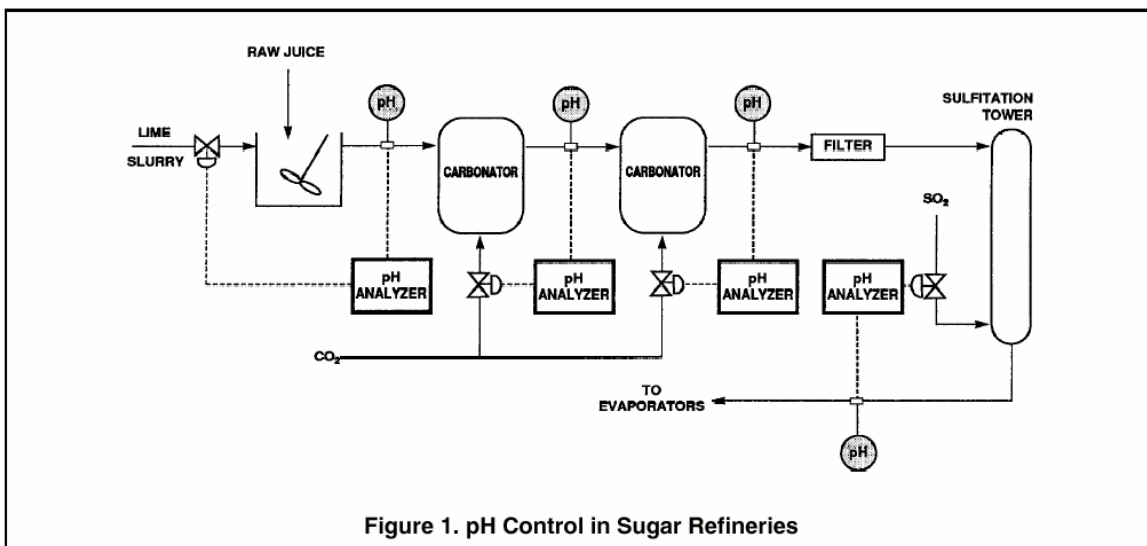

Figure 1. pH Control in Sugar Refineries
3. Keep foreign matter (insoluble organics, proteins, etc.) in suspension until a filtration process can remove them. (Please refer to Figure 1).
stages to avoid an unmanageable type of precipitate that can develop in single stage carbonation. At each stage, the pH is measured and carbon dioxide is automatically injected. By the last stage, the pH should be reduced to about 9. After carbonation, the juice is filtered to remove all traces of solid particles before flowing to the sulfitation tower. (Please refer to Fig. 1).
Sulfur dioxide is automatically added to the juice to lower the pH to roughly 5-6 before it goes on to the evaporators. The sulfur dioxide also bleaches the juice to improve flavor and texture. Without this step, an alkaline juice would be produced, and the sugar crystals would stick together due to moisture absorption and have an undesirable taste (Figure 1).